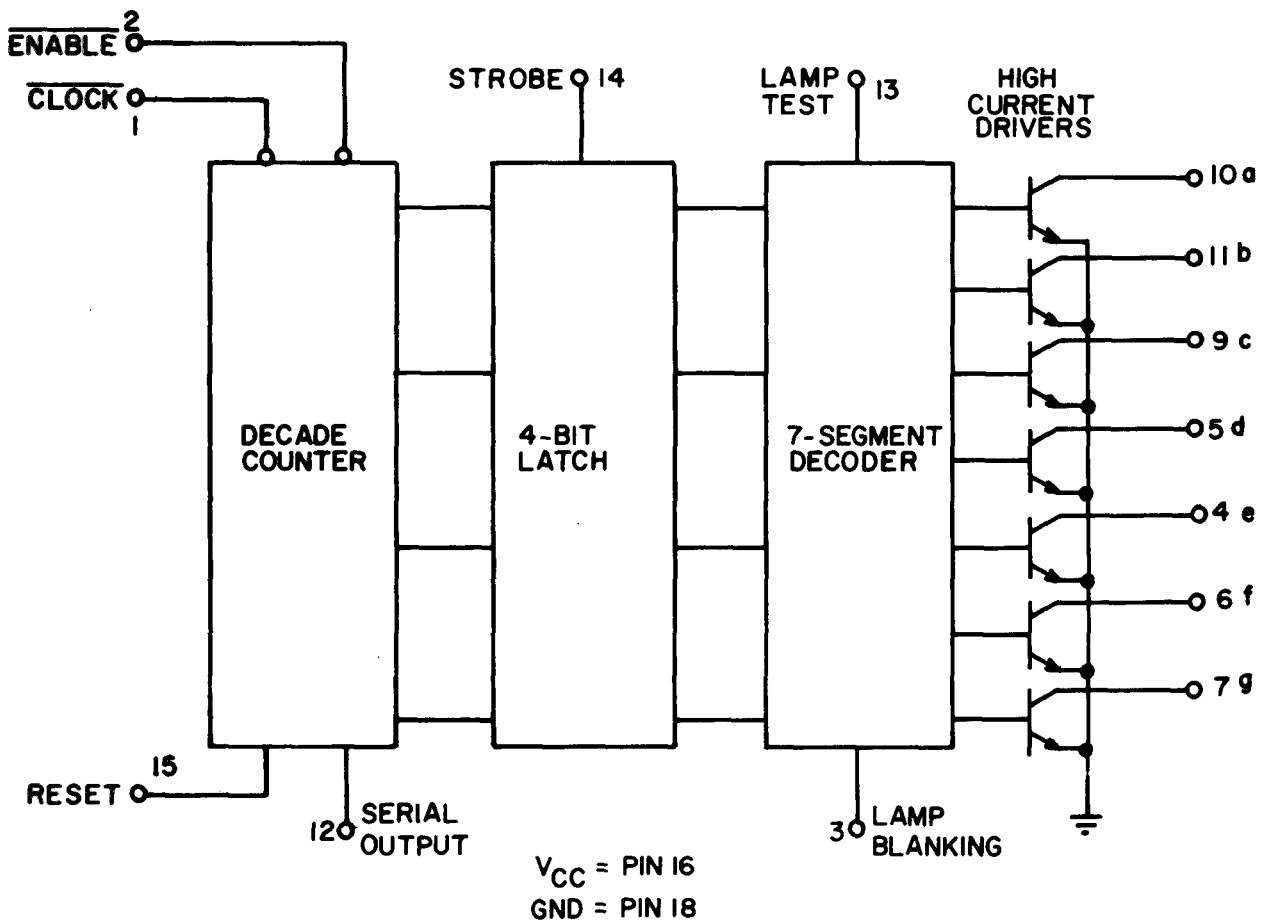

Figure 1-32. Counter-Latch-Decoder.
6. Counter-Latch-Decoder (MC4350L). This device (fig. 1-32) combines the functions of an NBCD counter, four-bit latch, and a seven-segment decoder/driver. The counter advances on input. The serial output is high driving the ninth count, allow-